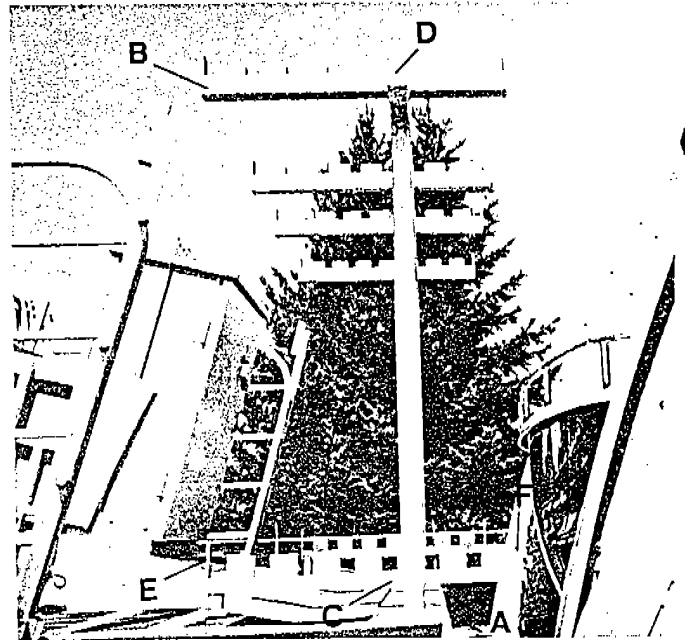
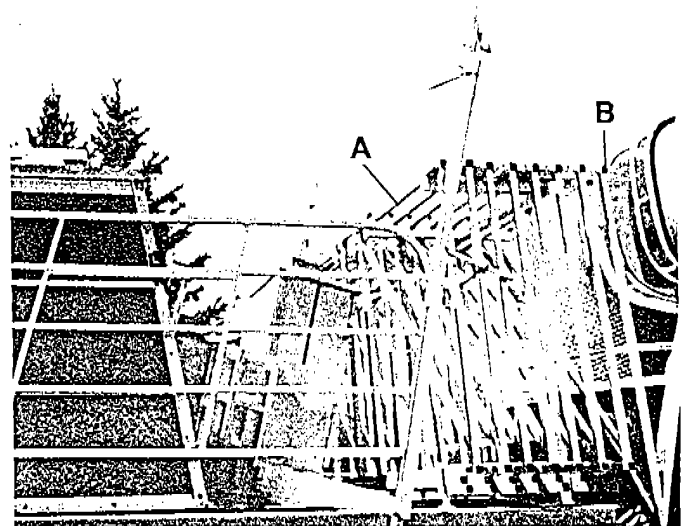
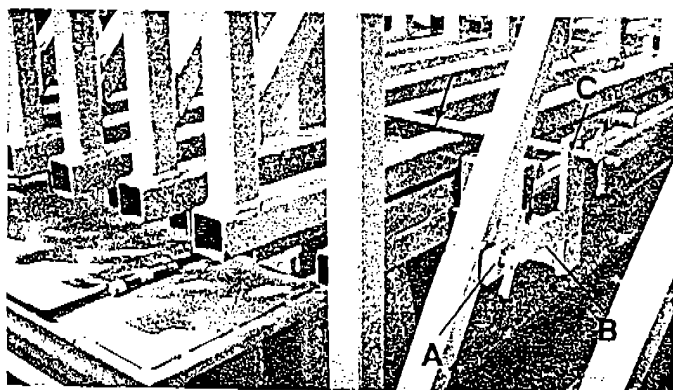

Fig. 84
Fig. 85
Fig. 86
- a. The walkway support frame rack is installed in two holes at the end of the gooseneck ramp. (Fig. 84)
- (1) Fit the legs of the rack in the holes. Secure in place by tightening the set screws at the end of the gooseneck ramp (a). (Refer to Fig. 84)
- (2) Position the rack so the long ends of the racking bars point away from the center cone (b). (Refer Fig. 84)
- b. Load the back walkway support frame section first. Store it on the rack in the slots that are closest to the control console (a). (Fig. 85)
- (1) Position the support frame section with the long bar resting in the lower rack slots (c). (Refer to Fig. 84)
- (2) Slide the long bar across to the rack slot on the other side of the ramp.
- (3) The top of the walkway support frame rests in the upper rack slots (d). (Refer to Fig. 84)
- f. Load the walkway support frame sections from the other side of the ride. Work from the back of the ride around to the front. The first frame section from the back is loaded on the rack in the slots that are closest to the control console (a). (Refer to Fig. 85)
- (1) The long walkway frame bars rest on the upper rack, on top of the first frame sections loaded.
- (2) Slide the long walkway frame bars across to the other side of the ramp. Allow the lower walkway frame bars to rest on the first frame sections stored in the lower rack slots.
- h. After all the walkway support frame sections are loaded on the rack, load the two large walkway support frame sections (b). (Refer to Fig. 85)
- (1) Start from the same side that was loaded first. Slide the long bar of the large walkway support frame section across to the other side of the gooseneck ramp. Allow the long bar to rest in the lower rack slots.
- (2) **NOTE:** A pin (a) is welded to one of the bars of each of the large walkway support frame sections. Be sure to position the frame sections on the rack so the pins point toward the back of the ride. (Fig. 86)
- (1) There is a fastening ear at either end of the lower racking bar (e & f). (Refer to Fig. 84) The ear located toward the center cone is "T" shaped. It has two fastening holes in it (b). (Refer to Fig. 86)
- (2) Run a locking rod through the forward ear (e). (Refer to Fig. 84) Pass the rod over the walkway support frames. Run it through the top hole in the "T" shaped ear (c). *Snap Key in Place.* Fit the other hole in the "T" shaped ear over the small pin on the large walkway support frame (a). *Snap Key in Place.* (Refer to Fig. 86)
- (3) Install a locking rod on the other side of the rack in the same manner.